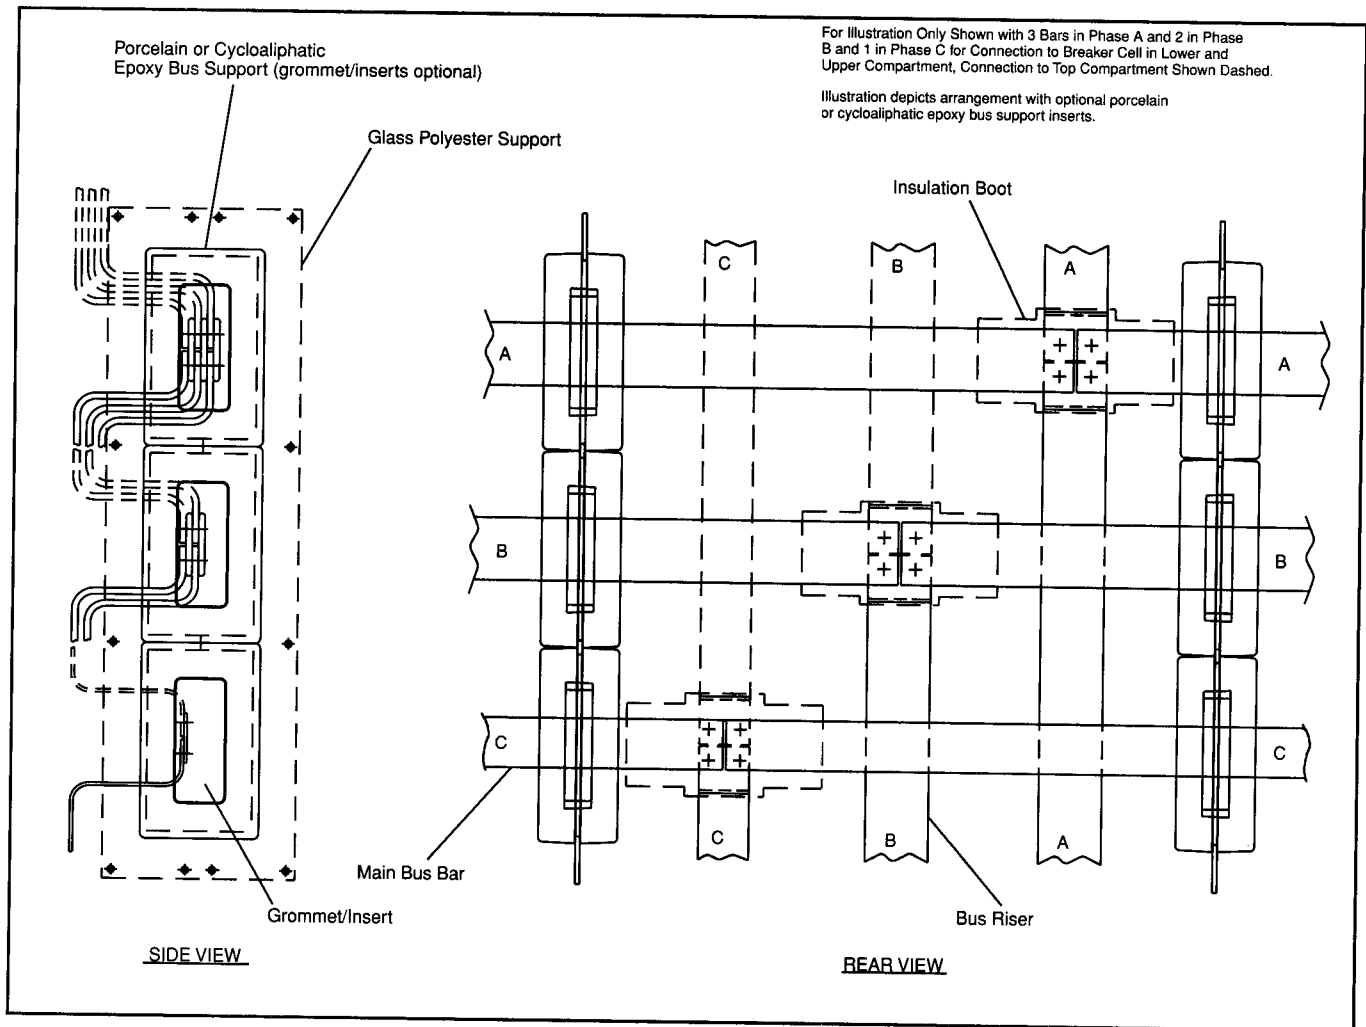

Figure 16. Main Bus Joints—Breaker Section
When a switchgear lineup is split for shipping purposes, the primary bus and ground bus connections must be made when installing the switchgear. These bolted connections are relatively simple to make. Refer to **Figures 16** and **17** and these instructions.
3. Before assembling any bus bar joint, check that the bar is inserted through bus supports (when required) and interunit bus supports, including neoprene grommets and insulator rings (inserts) where that option is furnished. Grommets (as shown in **Figure 16**) are used to support the bus bars in the insulator rings (inserts). Observe the factory positioning of these grommets when connecting at shipping splits to insure that bus bars will line up properly. Normally, the bus bar is oriented in the insert toward the front. Neoprene grommets are to be installed centered in the insert.
7. Assemble all joints as shown in **Figures 16** thru **19**. Install all hardware the same way that factory bus connections were installed. Hardware must be aligned properly or molded insulation may not fit over the joints.